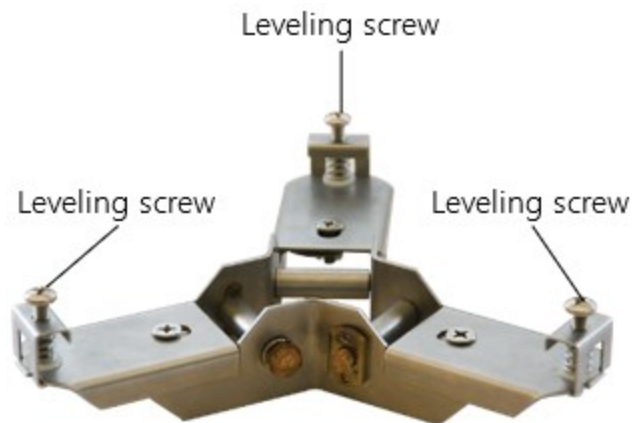

Figure 7-6. CM240 mounting bracket
2. Remove the leveling screws from the CM240 (Figure 7-6 [p. 15]).
3. Place the tipping bucket on the CM240 and line up the holes in the tipping bucket feet with the holes for the CM240 leveling screws (Figure 7-5 [p. 15] and Figure 7-6 [p. 15]).
6. Adjust the three leveling screws on the CM240 bracket to level the gage (Figure 7-6 [p. 15]). A bullseye level is mounted on the rain gage base to facilitate leveling (Figure 7-5 [p. 15]).